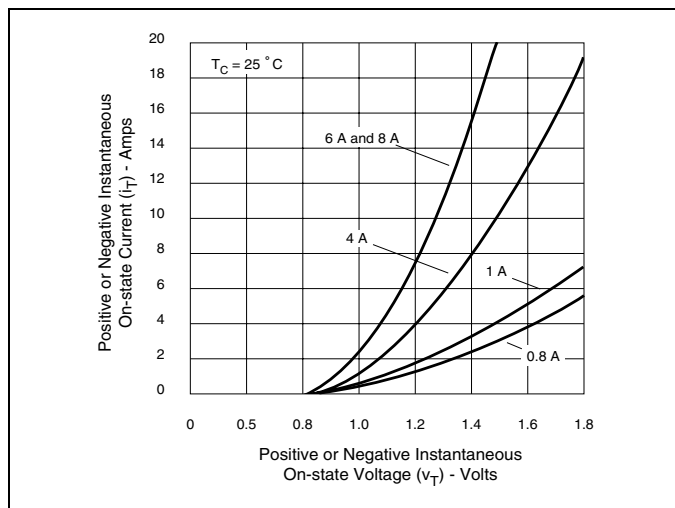

Figure E1.4 On-state Current versus On-state Voltage (Typical)
- (1) For either polarity of MT2 with reference to MT1 terminal
- (2) For either polarity of gate voltage V_{GT} with reference to MT1 terminal
- (3) See Gate Characteristics and Definition of Quadrants.
- (4) See Figure E1.4 for i_T versus v_T.